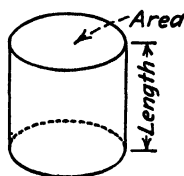

FIG. 36-8.
2. The volume of a cylinder is equal to the area of one end times its length, or the radius squared times 3.1416 times its length (Fig. 36-8).